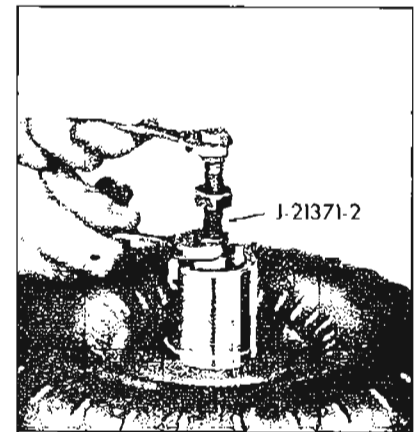

Figure 5-357
- a. Install Tool J-21371-2 and tighten brass nut. See Figure 5-357.